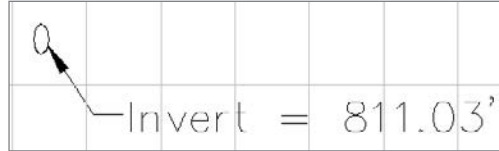

Figure 11.18
- Select the label so that a grip appears. Use the grip to drag the label off to the side. A leader will appear, as shown in Figure 11.18. Press **Esc** to deselect the label.